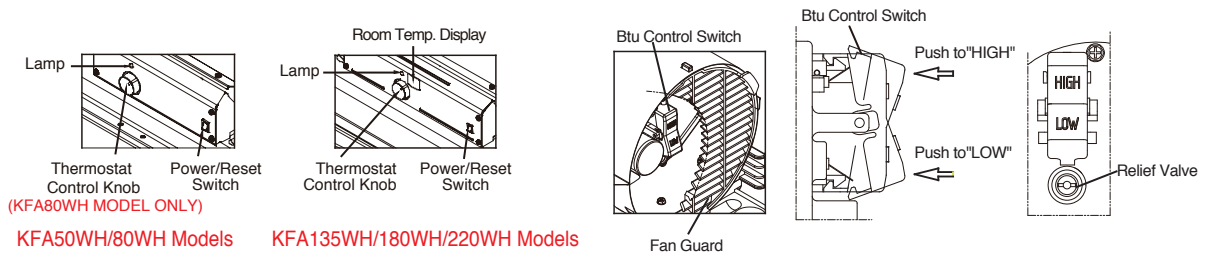

Figure 8. Controls for All Models
Insert screws through handles, fuel tank flange and wheel support frames as shown in Figure 8 and attach nut finger tight after each screw is inserted.
5. Push “BTU control Switch” to “High” level. (See Figure 8.) (KFA180WH/220WH Models Only)